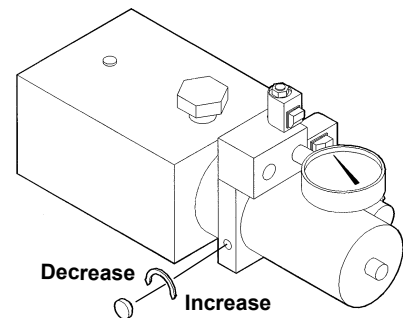

FIGURE 2
- 7.** With Platform on the ground, remove the pressure hose and fitting from the Pump and replace it with a 0-3000 PSI Pressure Gauge. Hold the switch in the “UP” position. Adjust the Relief Valve on the side of the Pump until the gauge shows 2800 to 3000 PSI . **(See Fig. 2)**